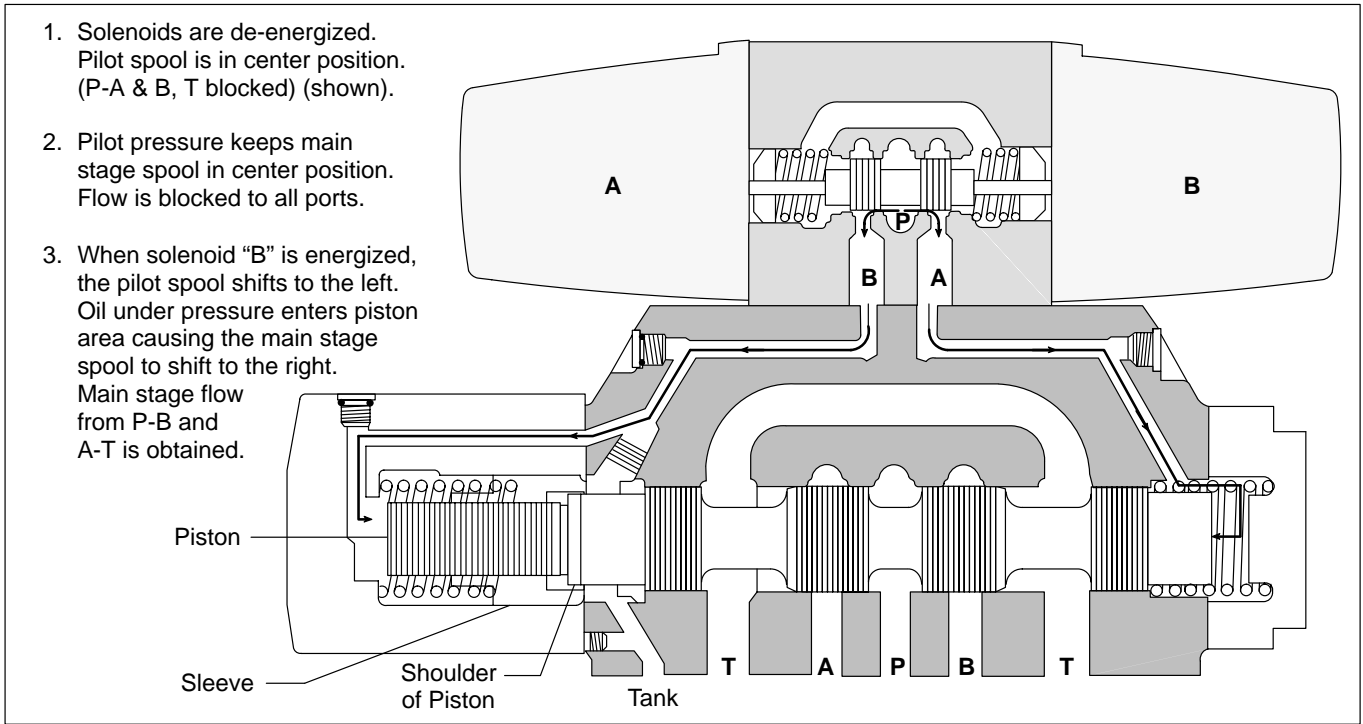

Figure 7. Pressure Centered "D" Model
Assume both pilot valve solenoids are de-energized and the main stage spool is positioned to the left (see Figure 7). Pilot pressure is applied to both ends of the main stage from the number seven (7) pilot spool. The sleeve moves to the right under the influence of the spring and pilot pressure until the piston shoulder is contacted. Since the sleeve and piston areas are greater than the total spool area at the right hand end of the valve, the sleeve continues to move to the right carrying the piston with it until it contacts the valve body (center position).
Pressure centered valves are not available with integral check valves. (Refer to Section V, Internal Valve Functions, for integral check valve information.) Pressure centered models have the letter "D" stamped into the unit nameplate (i.e. DG5S4-062D-**-51). Figure 7 illustrates spool/spring arrangement on pressure centered models.